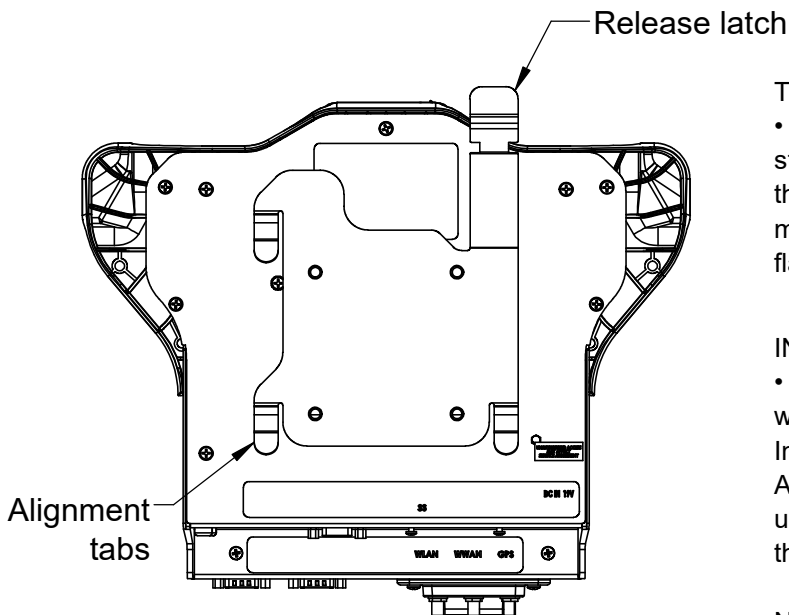

Figure 2
- Install the adapter plate onto the back of the docking station by aligning the 4 holes in the adapter plate with the four holes in the docking station and use the 1/4" machine screws provided. The adapter plate should sit flat against the back of the dock. (See Figure 2).
- Pull Release Latch (See Figure 2) toward you and at the same time slide dock upward to release the docking station from the wall mount. IMPORTANT: Keep in mind data and power cables may need to be disconnected from the docking station first.